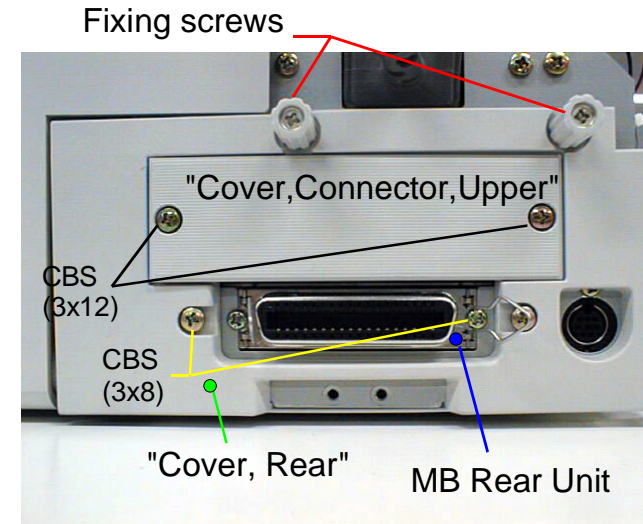

Figure 4-12. Cover, Rear Removal
3. Remove 2 CBS screws(3x12) securing "Cover, Rear" and remove "Cover, Rear". (Refer to Figure4-12)